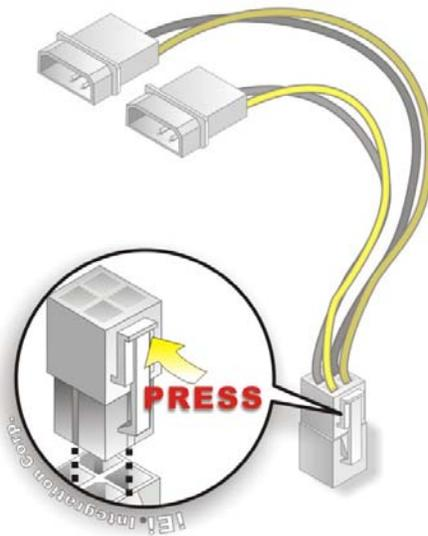

Figure 4-16: Power Cable to Motherboard Connection
Step 2: **Connect the Power Cable to the Motherboard.** Connect the 4-pin (2x2) Molex type power cable connector to the AT power connector on the motherboard. See Figure 4-16.